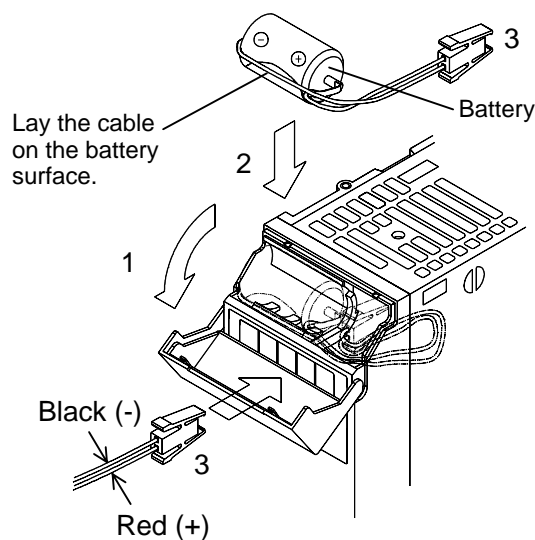

Fig. 1
Strip the cable cover as shown in Fig. 1. Then, the cable can be used as it is. The applicable wire size is as follows.
- 2- Set the battery in the battery housing with its positive side on the receptacle side as shown in Fig. 1.
- 4- Lay the battery cable surely on the battery surface as shown in Fig. 1 and house the excessive cable in the cable housing.